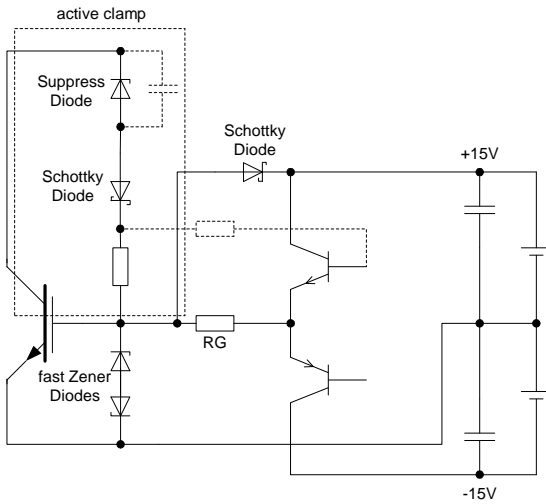

Fig. 3: Gate-drive recommendations
Clamping of the gate voltage to 15V for protection against high inductive short-circuit events is also recommended. This can be achieved by either clamping the gate-voltage as close as possible to the gate-emitter auxiliary terminals of the module with anti-series fast zener diodes, or by a feedback from the gate to the +15V supply capacitor via a fast Schottky barrier diode (Fig. 3).
If the turn-off over-voltage of the module cannot be kept below V_{CES} (1), due to high stray inductance or dc-link voltage, an active clamp can be used, as shown in Fig. 3. This is particularly important for HiPak™ modules with a rated blocking voltage of 1700V or lower, since these devices exhibit faster switching speeds.